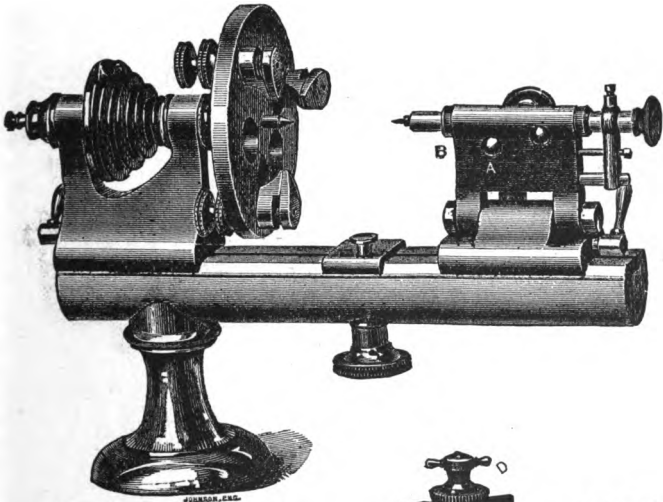

Fig. 8. Hopkins' Lathe.
**The American Lathes** are admirable tools, but their great cost limit their use. Fig. 8 shows the "Hopkins" combination Mandril and Lathe, with swinging tailstock (A). This tailstock is much used for drilling, jewel-setting, cutting sinks in watch plates